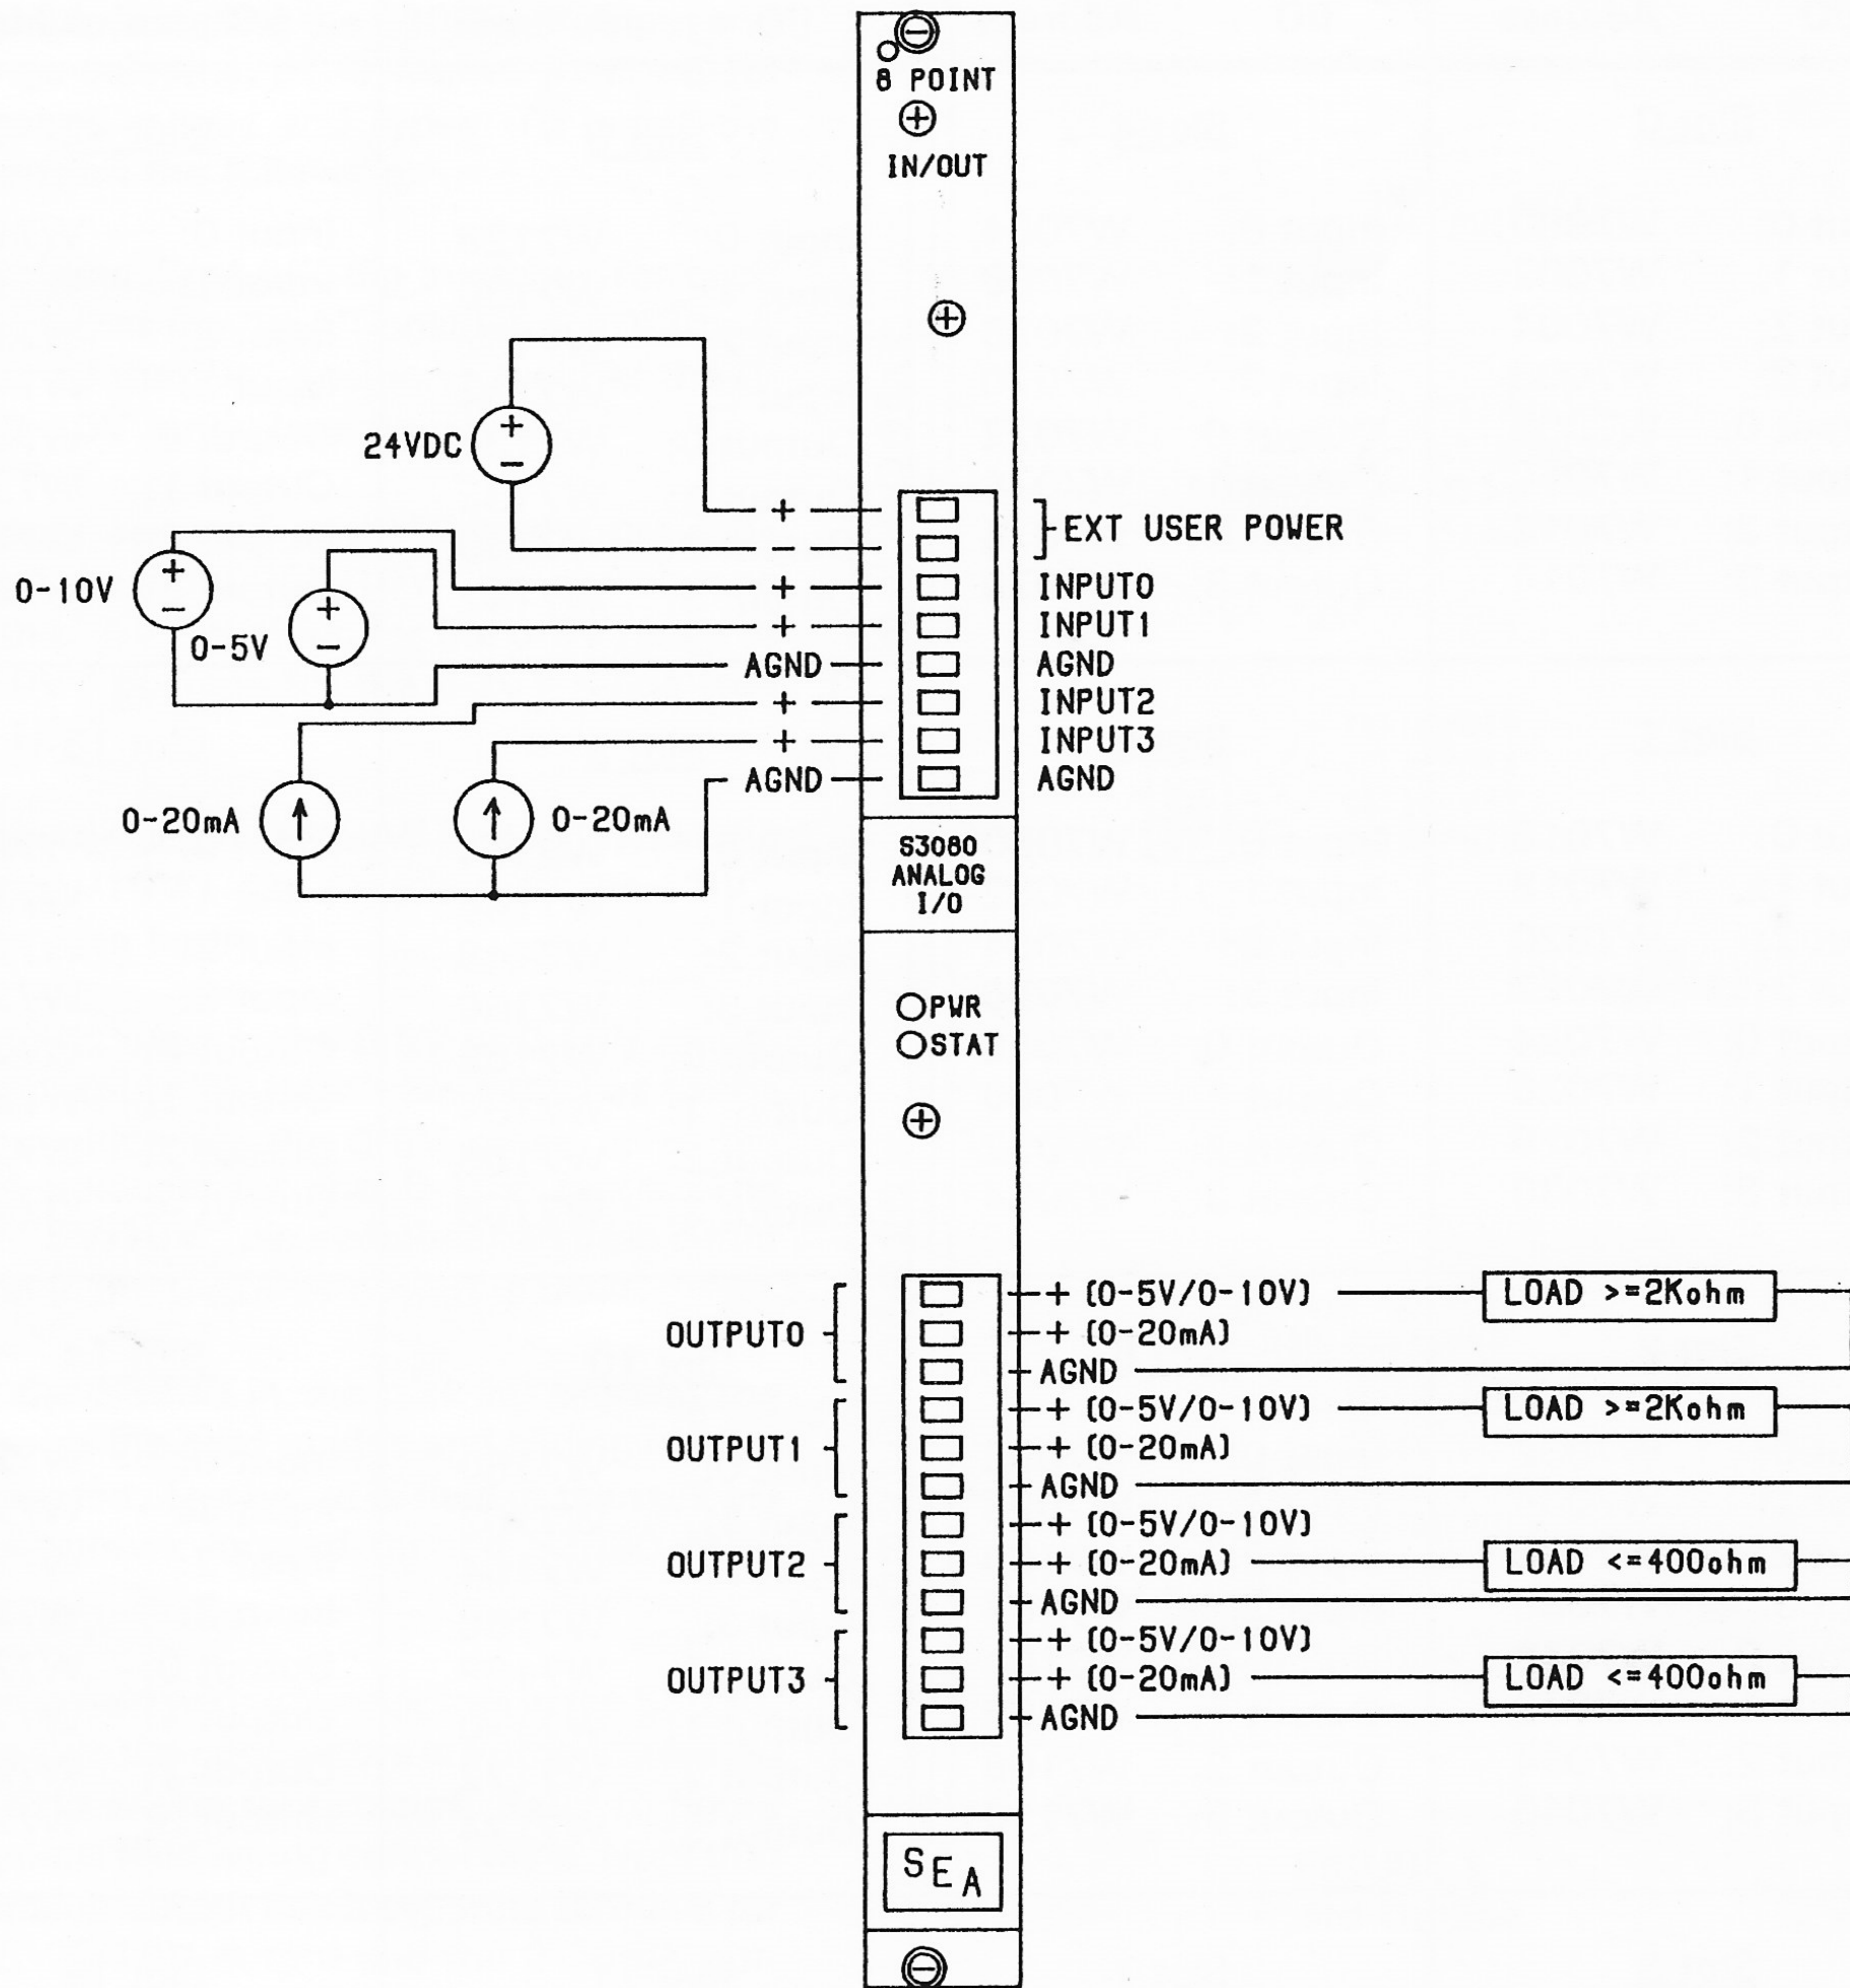

FIGURE 2
- 6) Install the field wiring connectors in the S3080, making sure the connectors are properly mated in the field wiring receptacles. Refer to figure 2 for typical field wiring connections. Note that each analog output has a separate terminal for the 0-5V/0-10V output and the 0-20mA output.
Typical analog input (0-5V, 0-10V, and 0-20mA) and analog output (0-5V, 0-10V, and 0-20mA) connections. Reference Figure 2.